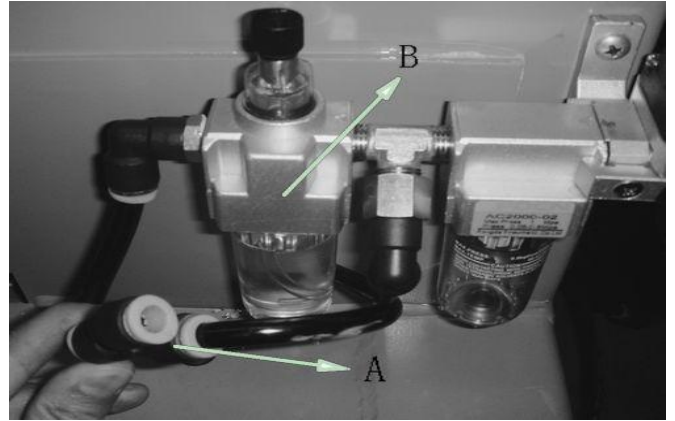

Fig 7-5
7. 1.6Connect the air source hose and use Y Tee (Fig7-5 A) to connect the outlet hose and the other end connect with the inlet of the assistant pressure adjusting valve.
7.3.4Remove the hose from the end of the air source fitting and use a small section of the ø8PU hose to connect the Y Tee with the outlet and another connected with the air source hose (fig7-5)
7.3.5Insert one end of the ø8 PU hose (fig 7-5) into the idle adapter of the Y Tee and another end connected with the inlet of the pressure adjust valve of the assistant.